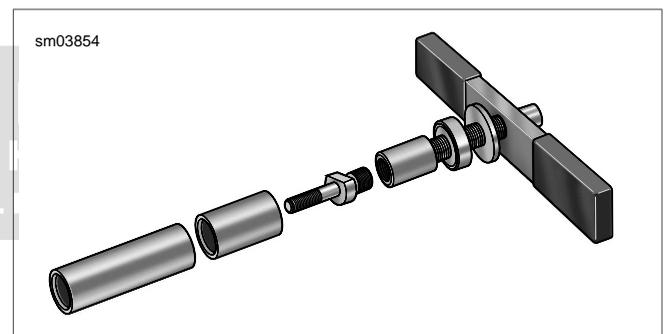

Figure 3-134. Sprocket Shaft Bearing Installer (Part No. HD-97225-55C)
4. See Figure 3-134. Obtain the SPROCKET SHAFT BEARING INSTALLER (Part No. HD-97225-55C). Assemble tool as described below.